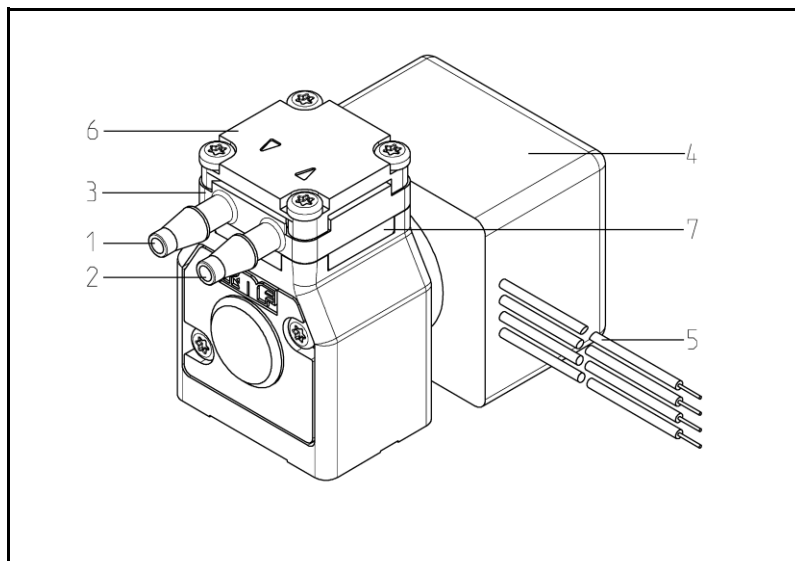

Fig. 1: diaphragm liquid pump NF 5
* The pump head (Fig. 1) comprises an intermediate plate and a connecting plate.